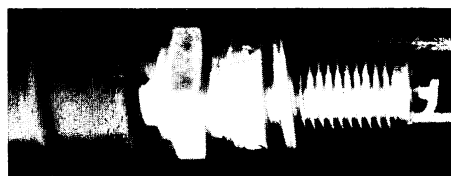

Fig. 21-22 Spark plug out and connected: rotate engine until plug fires
2. On battery ignition systems with the ignition on, a spark plug out, and connected to the high tension lead, rotate until the plug fires (Fig. 21-22).